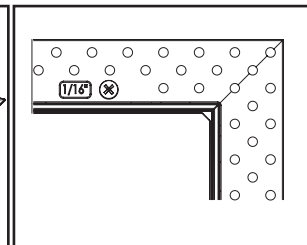

Figure 8.
2. Orient the position of the perforated frame such that the indicator shows the desired lip height. (Figure 8.)
3. Secure the perforated frame to the mounting frame using the (4) connecting screws. Do not overtighten the connecting screws.